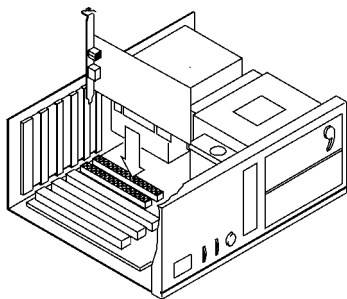

Figure 2-1 Inserting the Adapter into the PCI Slot
5. Insert the adapter into the slot and secure the screw (see Figure 2-1).